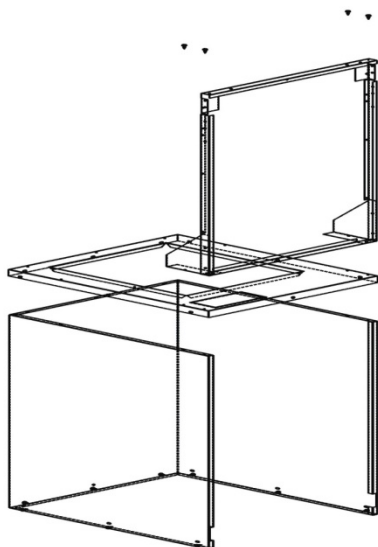

Figure 10: Return Air Grille Frame Assembly
5. Set the return air grille frame assembly on the top-front part of the furnace. Be sure to line up the screw holes in the frame with the screw holes in the furnace top cover as shown in Figure 10.